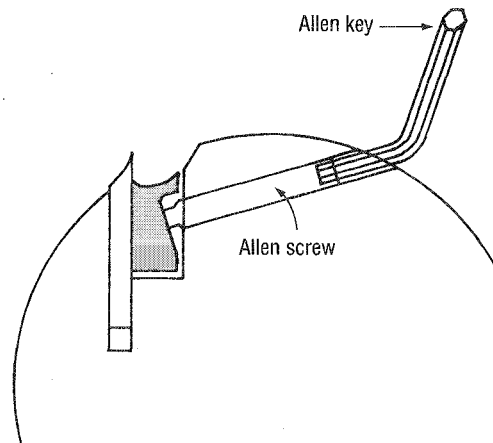

Fig. 3.13 Bar held block with Allen screws.
- Allen studs threaded through the body of the block and forcing the bar on to the cutter (**Fig. 3.13**); or